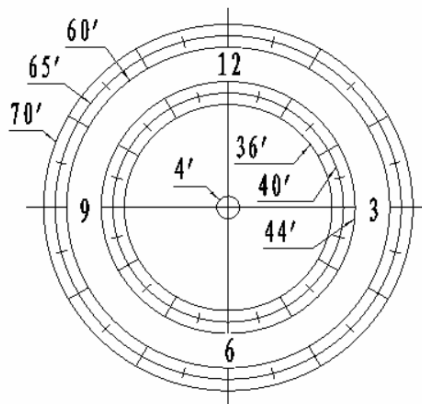
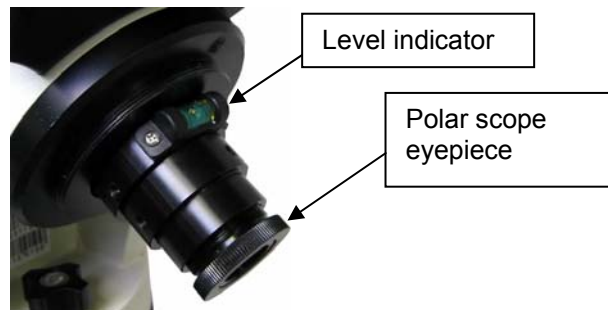

Figure 11. Polar Scope Dial
Figure 12. Polar scope with bubble level indicator
As indicated in Figure 11, the Polar Scope Dial has been divided into 12 hours along the angular direction with half-hour tics. There are 2 groups, 6 concentric circles marked from 36' to 44' and 60' to 70', respectively. The 36' to 44' concentric circles are used for polar alignment in northern hemisphere using Polaris. While the 60' to 70' circles are used for polar alignment in southern hemisphere using Sigma Octantis.
During initial setup of the iEQ mount, it is likely that the viewing hole on the DEC axis of the polar scope may be blocked by the DEC axle. The Polar Scope Dial in the polar scope may not be set at the normal clock position with 12 located at the top, as shown in Figure 11. Before doing the Quick Polar Axis Alignment, complete the following steps:
- (1) Take off both the Polar Axis Cover and the Polar Scope Cover from the mount.
- (2) First, thread the dark field illuminating LED end into the threaded hole on the polar scope. Then plug the other end into the Reticle socket located on the Main unit. The illumination intensity can be adjusted using the hand controller (HC) via the “**Set Eyepiece Light**” function under the “**Set Up Controller**” menu.
- (3) Release DEC Clutch lock handle and turn the DEC axle manually to unblock the Polar Scope view and relock the DEC Clutch.
- (4) Adjust polar scope eyepiece shown in Figure 12 to bring the polar scope dial in focus.
- (5) Release RA Clutch lock handle, rotate the mount along the RA axis until the 12 position of the dial is on the top, as shown in Figure 11. If your polar scope is equipped with a bubble level indicator, as shown in Figure 12, simply make sure the bubble is in the middle. Relock the RA Clutch.